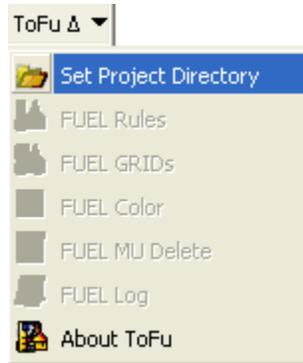

Figure 6-2. Use drop-down menu to **Set Project Directory**.
- First, use the ToFu Δ toolbar to set your working directory by clicking on the **Set Project Directory** option as shown below (fig. 6-2).